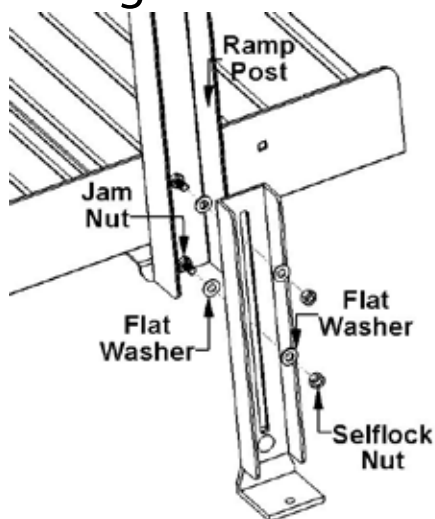

Fig.4.13
**4.5 Leg Attachment & Adjustment:** With the ramp run completely assembled and positioned in the final resting location the legs can now be attached and adjusted. Place a washer over the carriage bolts and jam nuts used to attach the ramp post, place leg inside of the ramp post with carriage bolts coming through the slotted hole of the ramp leg, and fasten with another flat washer and self locking nut (**Fig.4.13**). Slide the leg down until the angle of the leg makes solid contact with the resting surface, loosen the leg angle hardware so it sits flush on the resting surface and re-tighten all hardware.